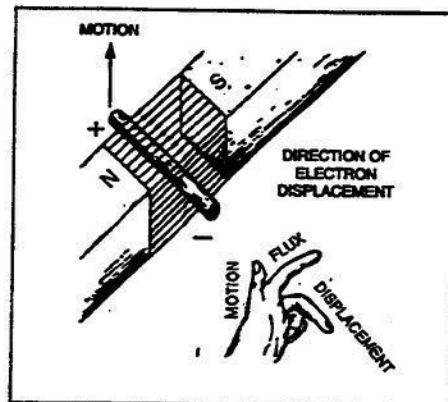

Figure 2-57. Left-hand rule for induced EMF.
**Induction.** Electromagnetic induction occurs any time a conductor is passed through a magnetic field in such a way as to cut the lines of force. In figure 2-57, a conductor is passed upward through a magnetic field in a direction perpendicular to the direction of the flux lines. As the conductor cuts through the flux lines, the magnetic field exerts a force on the free electrons within the conductor. This force causes the free electrons to leave one end of the conductor and pile up on the other, creating a difference of potential across the conductor. The direction of this electron displacement and the resulting polarity of induced voltage can be determined by the use of the *left-hand rule for generators* stated as: With the thumb, forefinger, and middle finger on the left hand held perpendicular to each other, point the forefinger in the direction of the magnetic field and the thumb in the direction of motion of the conductor; the middle finger then points in the direction of electron displacement (negative end of conductor). The application of this rule is demonstrated in figure 2-57. Notice that the middle finger points to the end of the conductor, which assumes a negative charge as a result of the electron displacement.